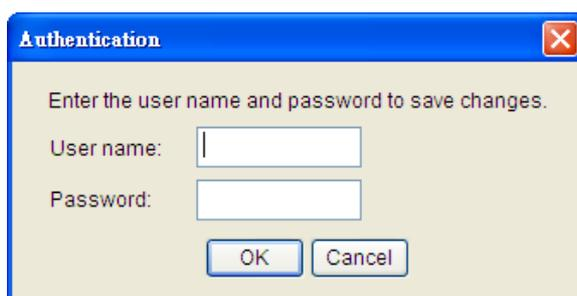

Figure 3. Authentication window.
7. You will need to enter a User Name and Password for the SNMP card (Figure 3) in the authentication window, as shown in figure 3. *Default user name: cyber; Default password: cyber